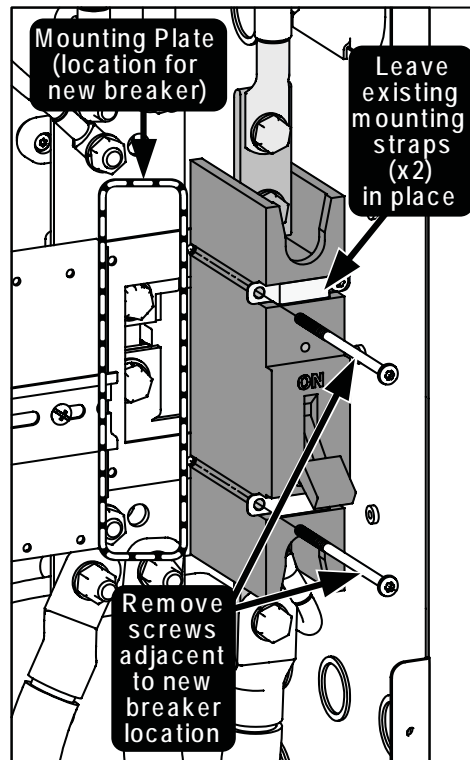

Figure 2, Removing Screws
2. Using a T25 screwdriver, remove only the two #10-32 x 3.5" Torx screws that attach the existing DC breaker to the mounting plate and are adjacent to the location that you will add your new DC breaker (see Figure 2).